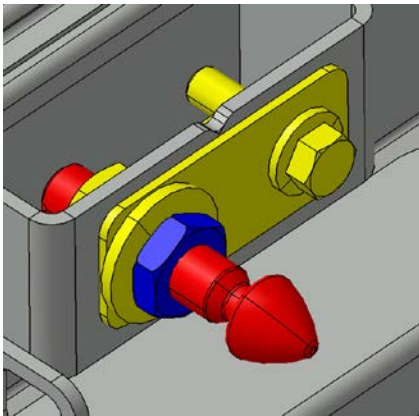

FIGURE 124
15. Use the pin to adjust the door so it is even with the adjacent steel sheet. Screw or unscrew the pin as required and then apply final tightening to the jam nut (FIGURE 124).